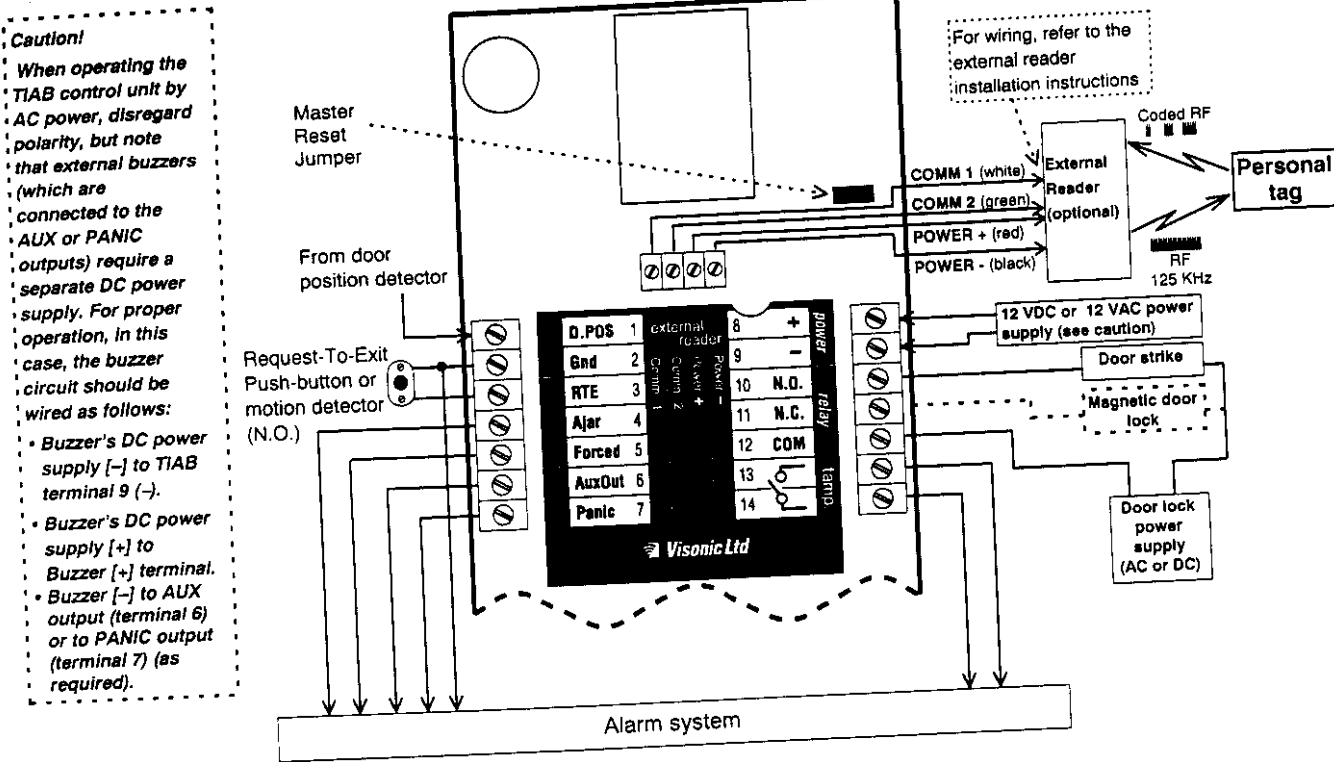

Figure 6 - Wiring diagram for integration with an alarm system
#### 5.2 Wiring Procedure (Fig. 6)
- Remove the Master Reset Jumper (fig. 6). The TIAB buzzer will start beeping.